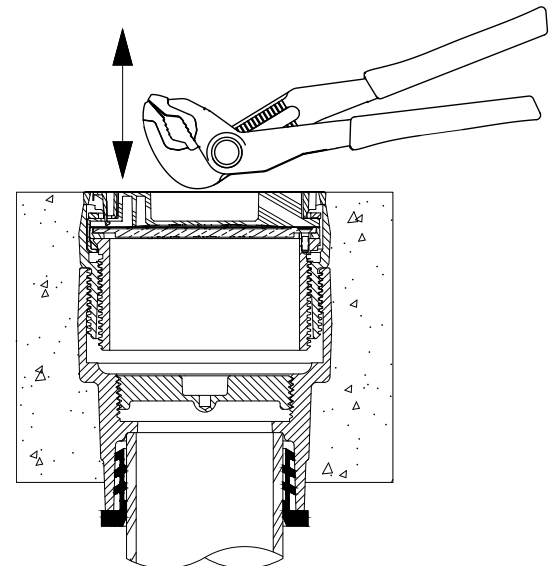

Fig. 5
5. Hit the top of the rough-in cover with a pair of adjustable pliers to loosen bond with the concrete. Continue hitting the rough-in cover until a visible crack forms around the entire circumference of the rough-in cover. The rough-in cover should appear loose (separates from concrete). See Fig. 5